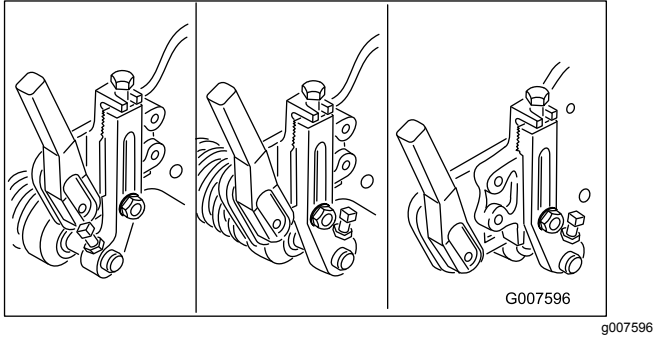

Figure 52
**Note:** The front roller can be put in 3 different positions (Figure 52), depending on the application and needs of the user.